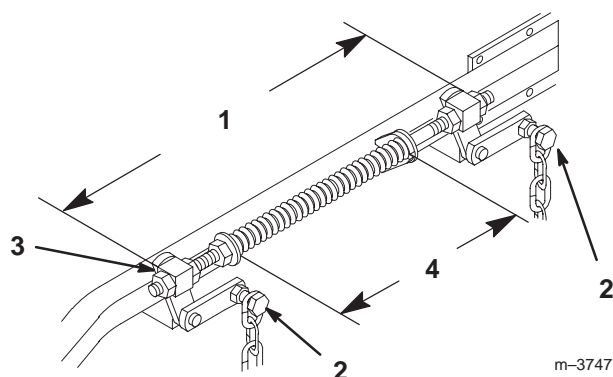

Figure 61
6. Loosen four (4) top chain bolts in slots. Check the length of the rod/swivel assemblies. Distance from outside of rear swivel to outside of front swivel should be 19–17/32 inch (496 mm) (Fig. 61). Make sure that all four swivels move freely in holes.
2. Springs are compressed so the distance between the two large washers should be 10–1/4 inch (260 mm) (Fig. 61).
3. Adjust by turning nut in front of each spring (Fig. 61). Clockwise will shorten spring; counter-clockwise will lengthen spring.